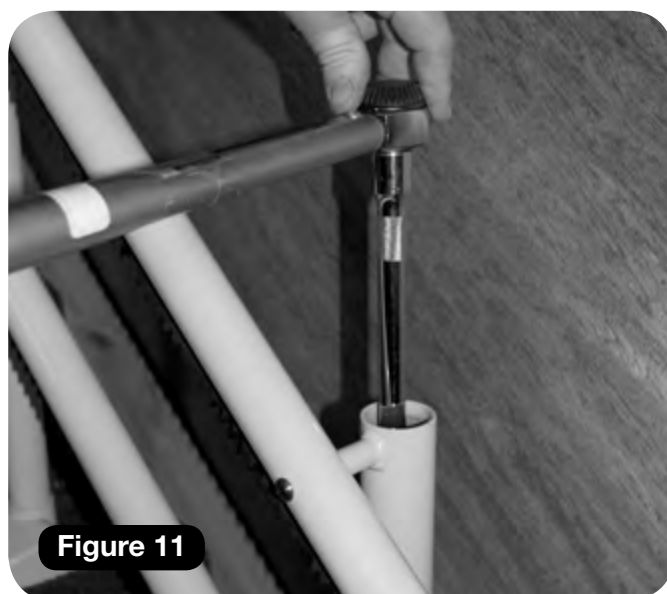

Figure 11
- 7 Check all stanchion heights and tighten the stanchions (**Figure 11**).